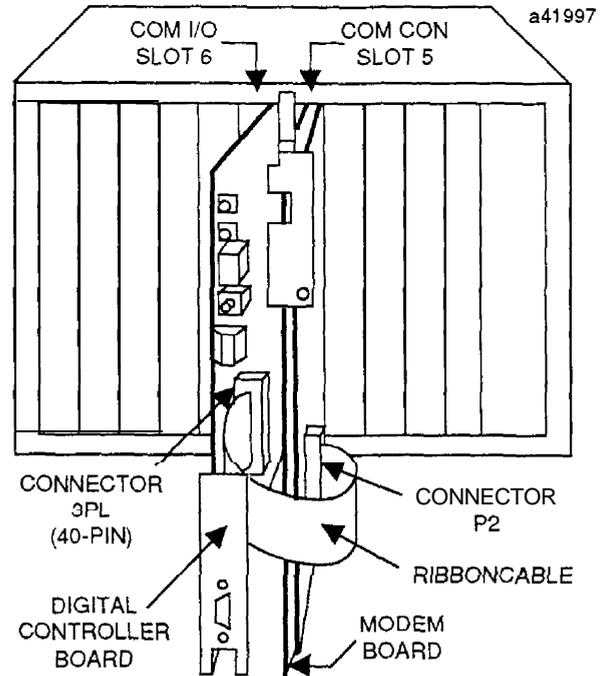

Figure 4. Series Six Plus Rack Layout
8. Connect the loose end of the ribbon cable to connector P2 on the modem board. See Figure 4.